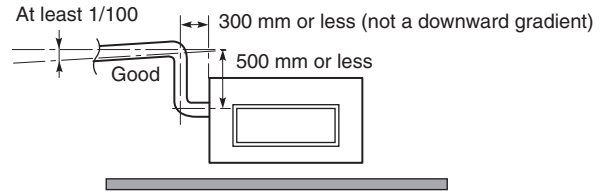

Fig. 3-65-2
- If it is necessary to increase the height of the drain pipe, the section directly after the connection port can be raised a maximum of 500 mm. Do not raise it any higher than 500 mm, as this could result in water leaks. (Fig. 3-65-2)